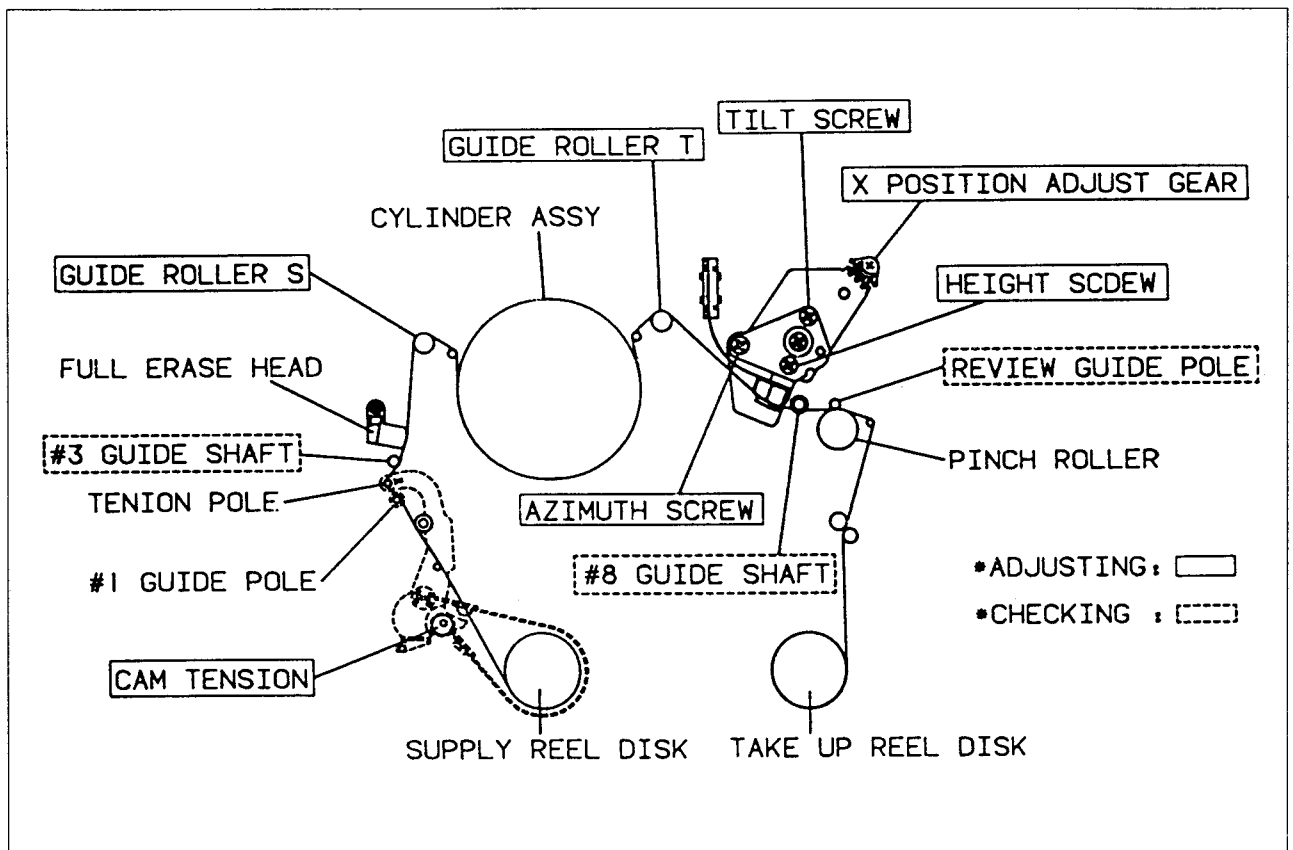

Fig. 4-59
3. Turn screws (A), (B), (C) clockwise or counterclockwise until the gap of the lower tape edge and the lower edge of the control head is about 0.25mm. (See Figure 4-59 and 4-60 for locations of Tape Transport adjustments.)